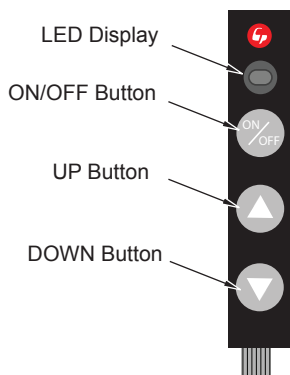

Figure 74 - Touch Pad Control
This touch control has only 3 buttons for controlling manually the flame of the appliance (see Figure 74).
1. To increase the flame level, press the up button (▲). A beep and a flash of the LED indicate that the system has accepted the order, and the flame will increase instantly (see Figure 74).
2. To decrease the flame level, press the down button (▼). A beep and a flash of the LED indicate that the system has accepted the order, and the flame will decrease instantly (see Figure 74).